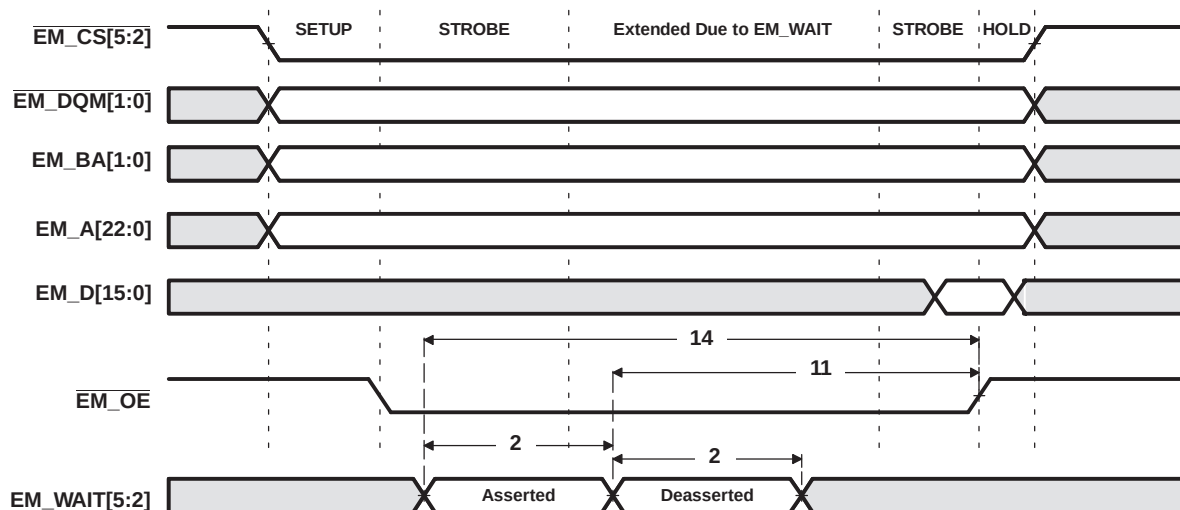
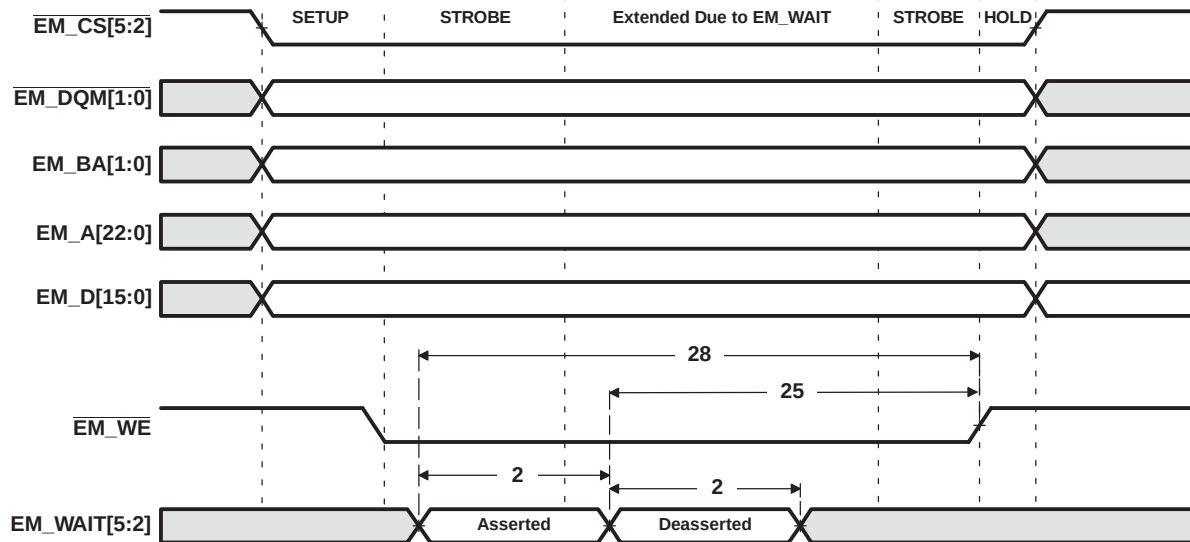

Figure 7-24. EM\_WAITx Read Timing Requirements
**Figure 7-25. EM\_WAITx Write Timing Requirements**
(1) E = SYSCLK3 period in ns for EMIFA. For example, when running the DSP CPU at 594 MHz, use E = 6.734 ns.
(2) Setup before end of STROBE phase (if no extended wait states are inserted) by which EM\_WAITx must be asserted to add extended wait states. Figure 7-24 and Figure 7-25 describe EMIF transactions that include extended wait states inserted during the STROBE phase. However, cycles inserted as part of this extended wait period should not be counted; the 4E requirement is to the start of where the HOLD phase would begin if there were no extended wait cycles.